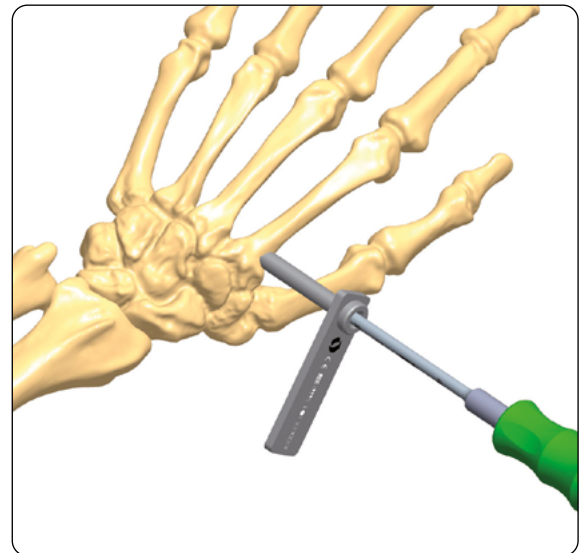

Fig. 2
- The screw guide is positioned on the bone with the trocar (19965) (**Fig. 2**)